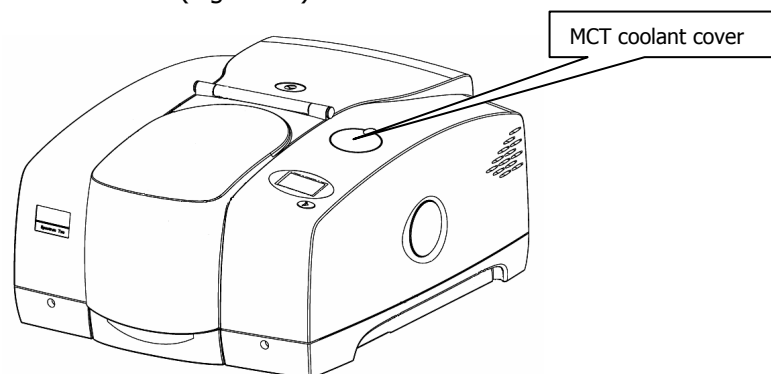

Figure 28 Location of MCT Coolant Cover
1. Remove the MCT coolant cover (Figure 28).